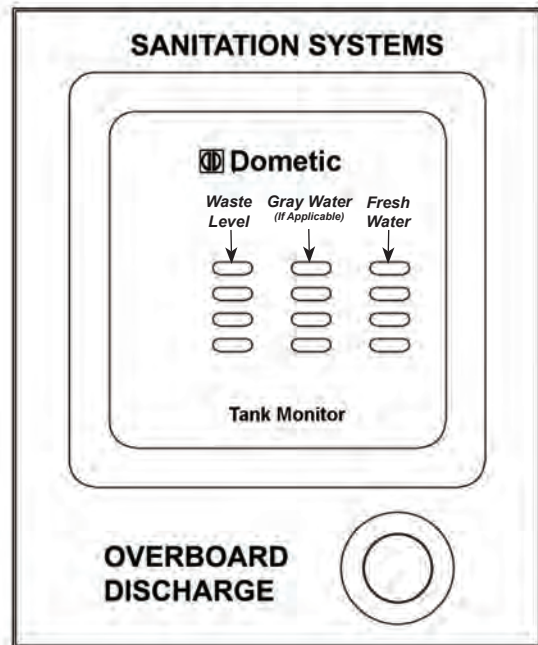

Figure J16: Overboard Discharge Switch
2. Turn ON the overboard discharge switch which is located on the 12VDC cabin panel. See Figure J16. Allow the discharge pump to run until the storage tank is empty. The sound of the pump’s motor load and speed will change when the tank becomes empty.
The waste holding tank should be emptied when the waste level indicator reads full. The waste level indicator is located on the 12VDC cabin panel. See Figure J16. **DO NOT ALLOW THE WASTE TANK TO BECOME OVERFILLED.**